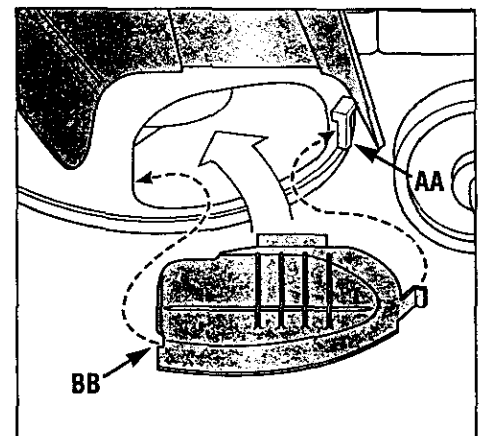

Figure 3-7
To use the mulching feature, insert the mulcher cover (Figure 3-7) securely in the right side of the deck beneath the discharge chute.
Insert the front tab of the cover into the mower front support bracket (AA, Figure 3-7). Then push the cover into place by sliding the cover rearward, making sure that the slot (BB) in the cover is completely engaged in the rear edge of the deck opening.